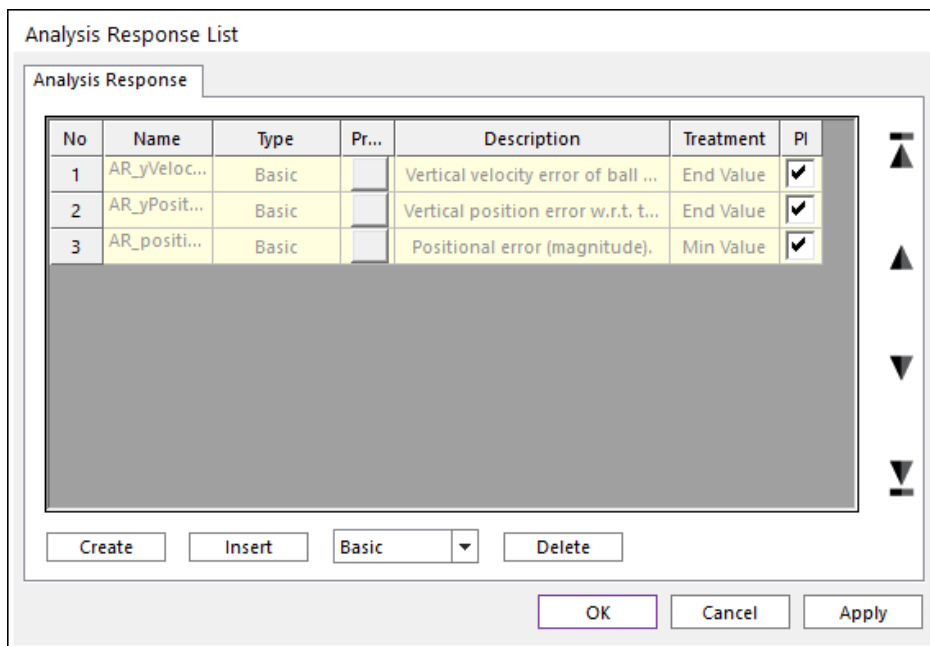

Figure B-3-2 Analysis response list
9. Return to the **Analysis Response List** window and check the checkbox under the PI column corresponding to the analysis responses you just created. This activates them as Performance Indexes, which will be used in the **Design Study** and **Design Optimizations** to follow. When completed, the **Analysis Response List** window should appear as shown in Figure B-3-2.